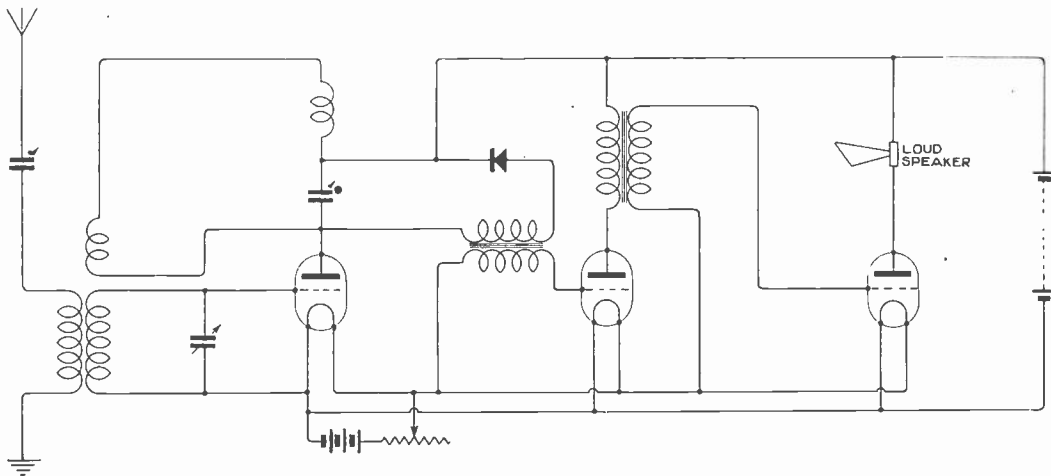

Fig. 2.
See diagram Fig. 2.
(1) Your aerial circuit is all wrong, as it shows the set with nothing connected to earth when on tune side and with the grid of the first valve earthed when on stand-by. Moreover, 300 megohms is far too high for a potentiometer resistance. You probably mean 300 ohms. (2) There should be very little difference at 1,000 metres. (3) They should be O.K. Your condenser or valve panel seems to be very leaky. (4) The set will not be very efficient below 100 metres.
"RADIO" (Salford) refers to the crystal set, Fig. 2, page 120, April 22nd issue, and asks (1) Is it suitable for local broucasting. (2) Size of coil and wire required and capacity of condenser for wavelengths from 200/3,000 metres.
(1) Certainly, within a distance of about 12 miles from a broadcasting station. (2) A.T.I. 9"×6" wound with No. 22. Coupling coil, 3"×3" of No. 22, with one or two tapings. Closed circuit inductance, 6"×4" of No. 26, with about six tapings. Variable condenser 0.0005 mfd.
(1) The connections are O.K. if the negatives of the two batteries are connected together as well as to the earth. (2) For British broadcasting, 80 ft. of No. 22 for the A.T.I., and 50 ft. of No. 26 for the reaction. (3) You are unlikely to get such a range—50 ft. is more like it. (4) Certainly; see Fig. 2, page 272, May 27th, and many others.